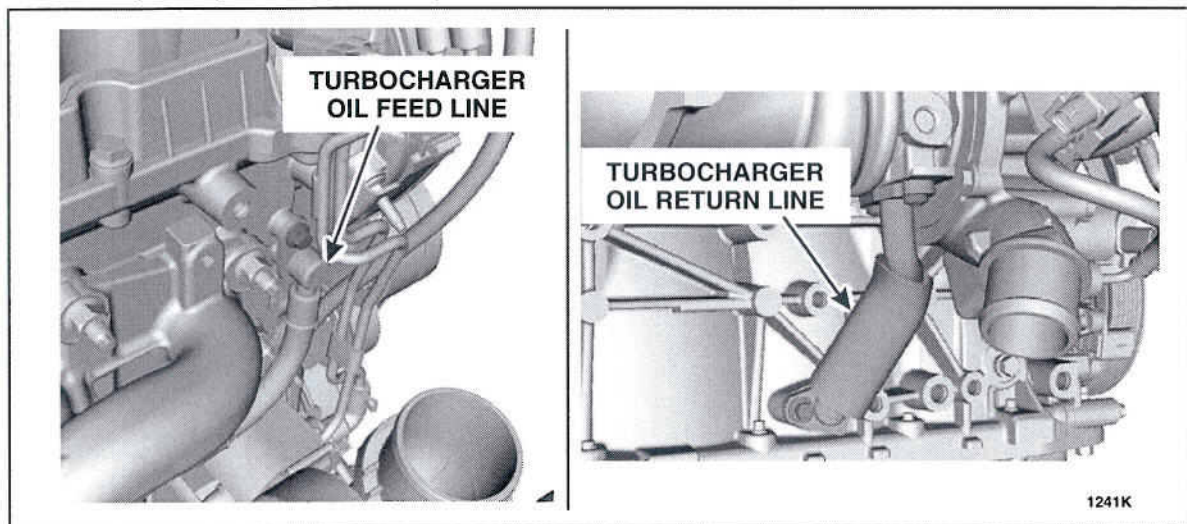

FIGURE 13
24. Inspect for oil leaks at the turbocharger oil feed and turbocharger oil return lines. See Figure 13.